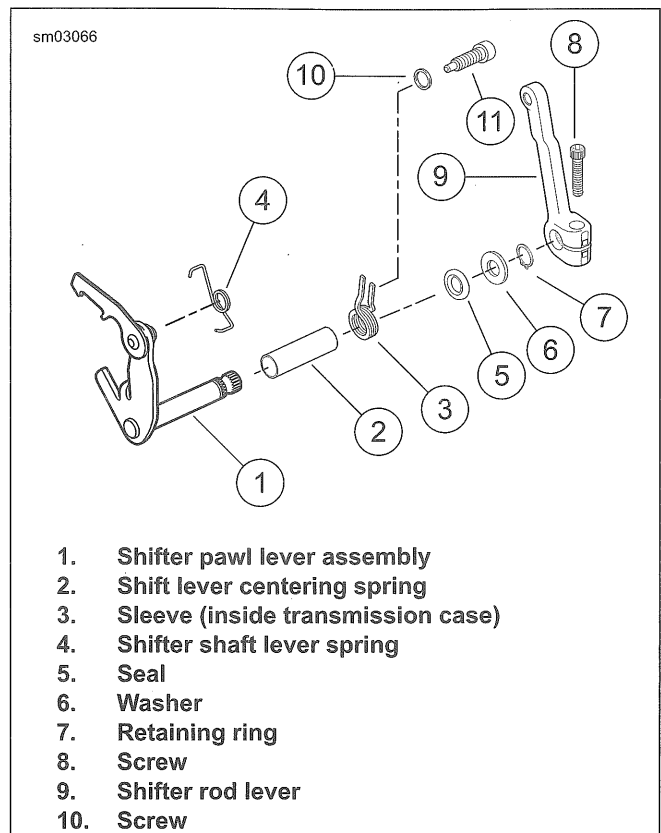
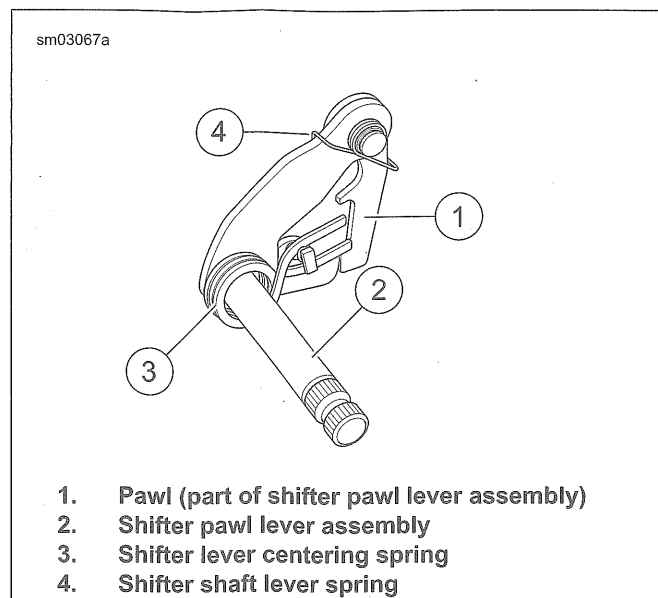
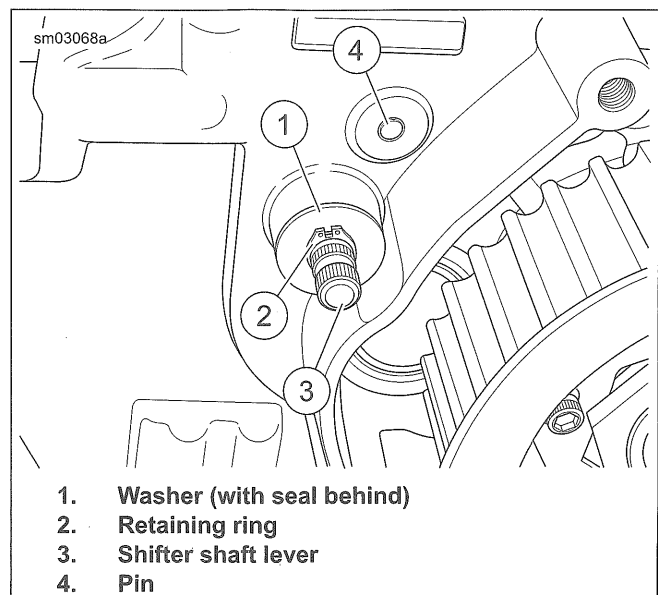

Figure 5-80. Shifter Arm and Pawl Assembly (Typical)
Figure 5-81. Shifter Pawl Lever Assembly
Figure 5-82. Shifter Shaft Lever, Exterior View
1. See Figure 5-80. Remove shifter rod lever.
- a. Remove pinch screw (8).
- b. Remove shifter rod lever (9) from the shifter pawl lever assembly (1).
- a. Remove retaining ring (7), washer (6) and seal (5).
3. Inspect sleeve (3) in transmission case.
2. See Figure 5-80. Inspect the shifter pawl lever assembly (1) for wear. Replace assembly if pawl ends are damaged. Replace centering spring (3) if elongated.
3. Inspect the shifter shaft lever spring (4). Replace if the spring fails to hold the pawl on the cam pins.
1. See Figure 5-80. Verify that sleeve (3) is in transmission case bore.
2. Install screw (10) into side of transmission case. Tighten. Torque: 18–23 ft-lbs (24.4–31.2 N·m) *Shifter pawl centering screw*
3. See Figure 5-81. Assemble shifter arm.
- a. Slide shifter lever centering spring (2) over shaft of shifter pawl lever assembly (3).
- c. Place shifter shaft lever spring (4) on shifter pawl lever assembly. Flex spring only enough to assemble.
4. See Figure 5-82. Insert the shifter arm assembly into the transmission case.
7. See Figure 5-82. Install washer (1) and **new** retaining ring (2).
8. See Figure 5-80. Install shifter rod lever (9).
- a. Install pinch screw (8).